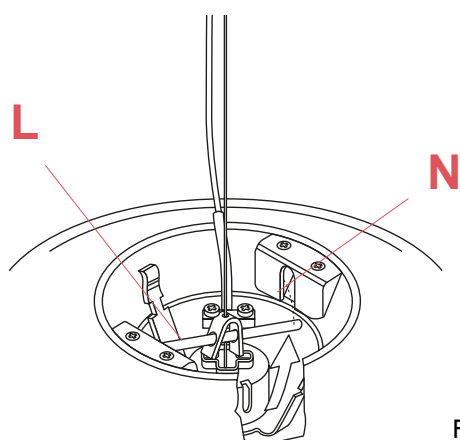

Fig.3
Hook the rod (L) into the housing (N), until it locks “clicks – in”. (fig.3)